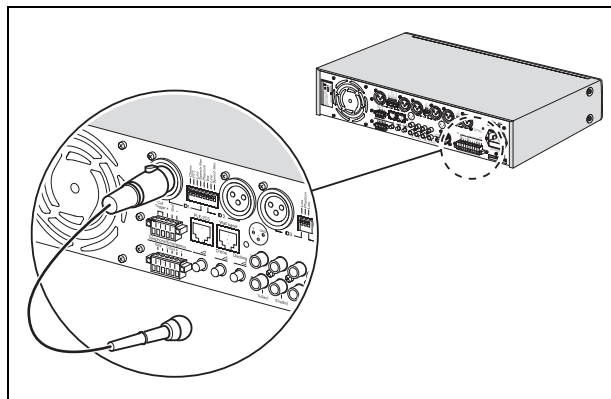

figure 4.2: XLR connector only
- XLR connector only. See figure 4.2.